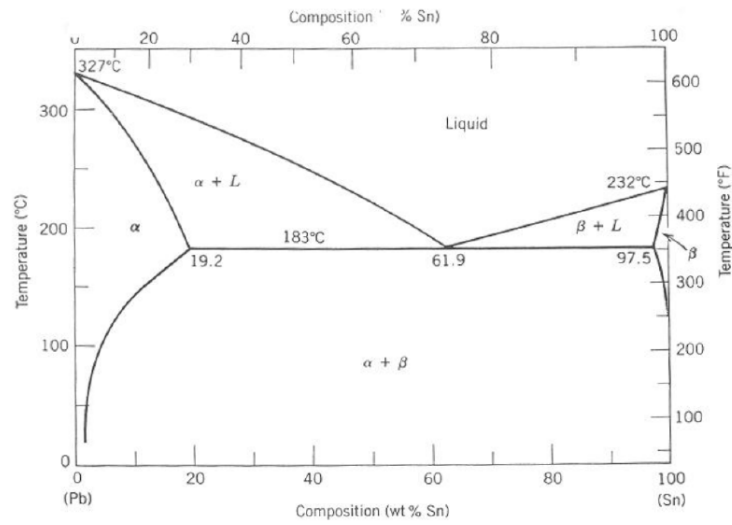

Figure 1.4: Pb-Sn phase diagram.
- 6) Consider the Pb-Sn phase diagram (see Figure 1.4).